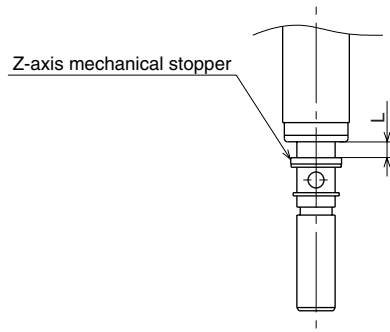
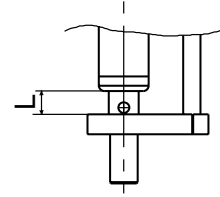

Fig. 4-10 R6YXH250 to R6YXH400
Fig. 4-11 R6YXX1200
- 8) Adjust the distance (L) between the Z-axis mechanical stopper and the axis end so it is set to the value shown in Table 4-3. Then tighten the four bolts to reassemble the Z-axis motor. (See Fig. 4-10, Fig.4-11) At this point, do not allow the spline shaft position to shift from the correct height.